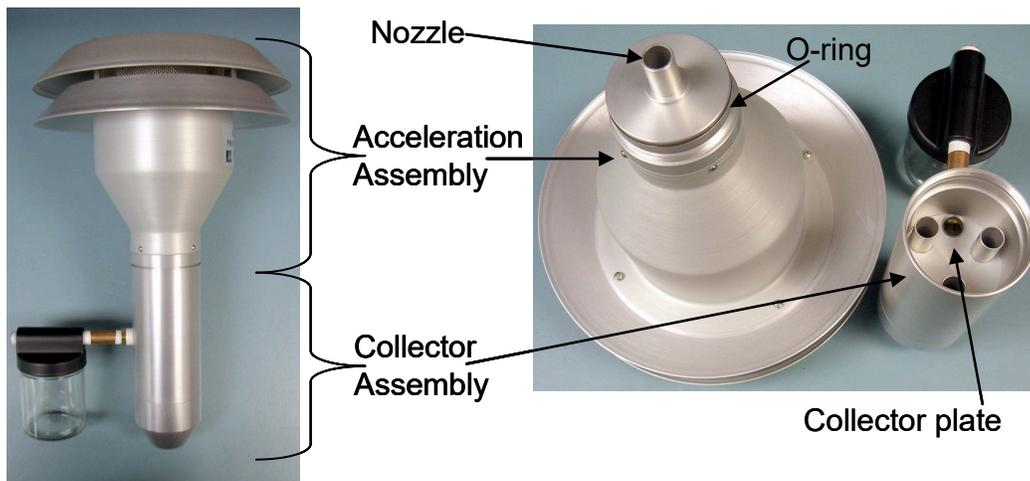

Figure 5-3. Diagram of PM10 head inlet components (Vaughn, 2009)
2. Unscrew the collector assembly from the acceleration assembly as shown Figure 5-3.